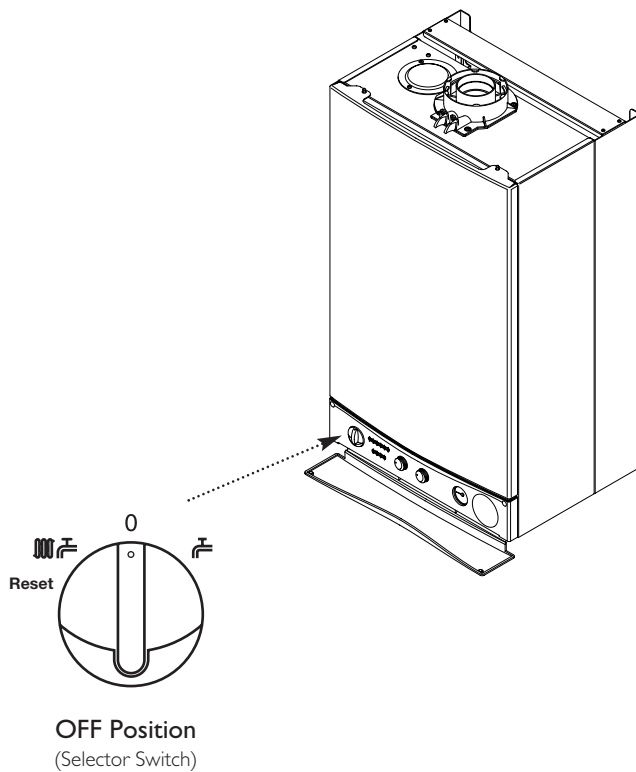

Fig. 9
6.3 To Shut Off the Boiler (Fig. 9)